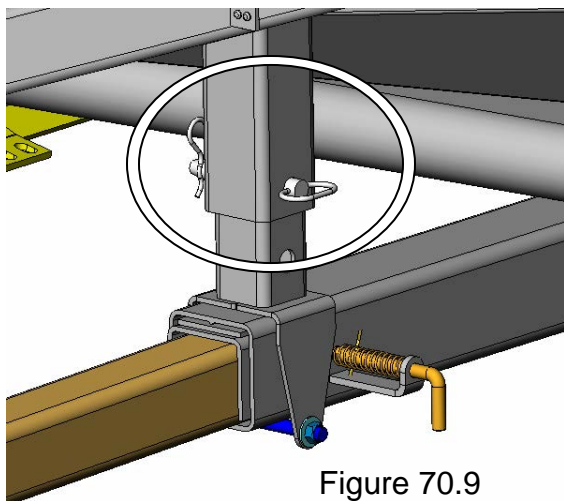

Figure 70.9
4. Lower the hitch tube by removing the pin securing the hitch to the table (Figure 70.9).